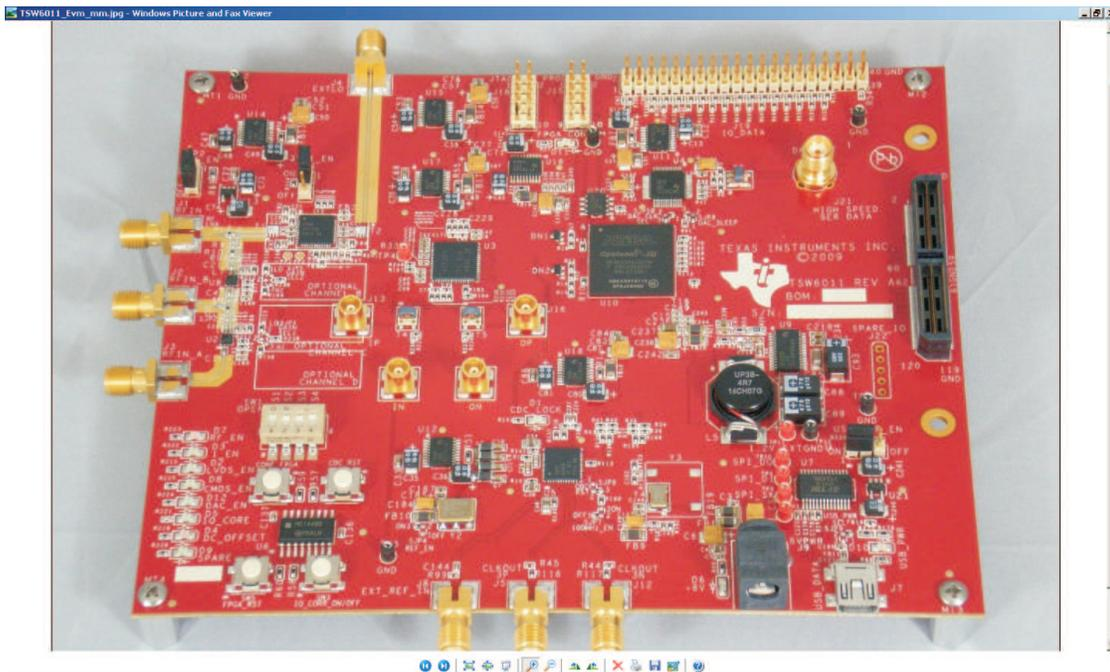

Figure 3. TSW6011EVM Board Top View
- Plug +6-VDC power supply to a 110-VAC to 120-VAC source and the output to J9. (See the board top-view drawing as shown in Figure 3.)